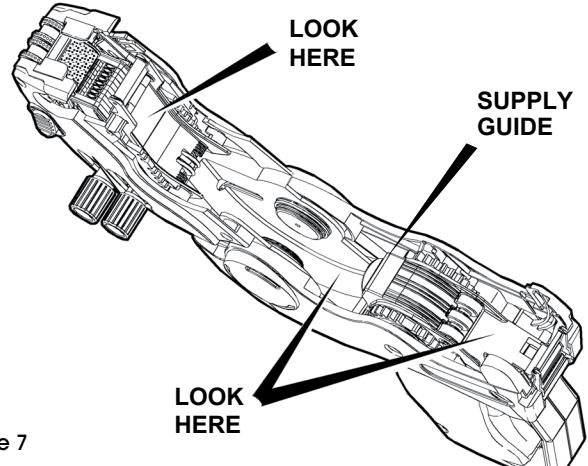

Figure 7
2. Remove any loose labels from the inside of the labeler. (See Figure 7)